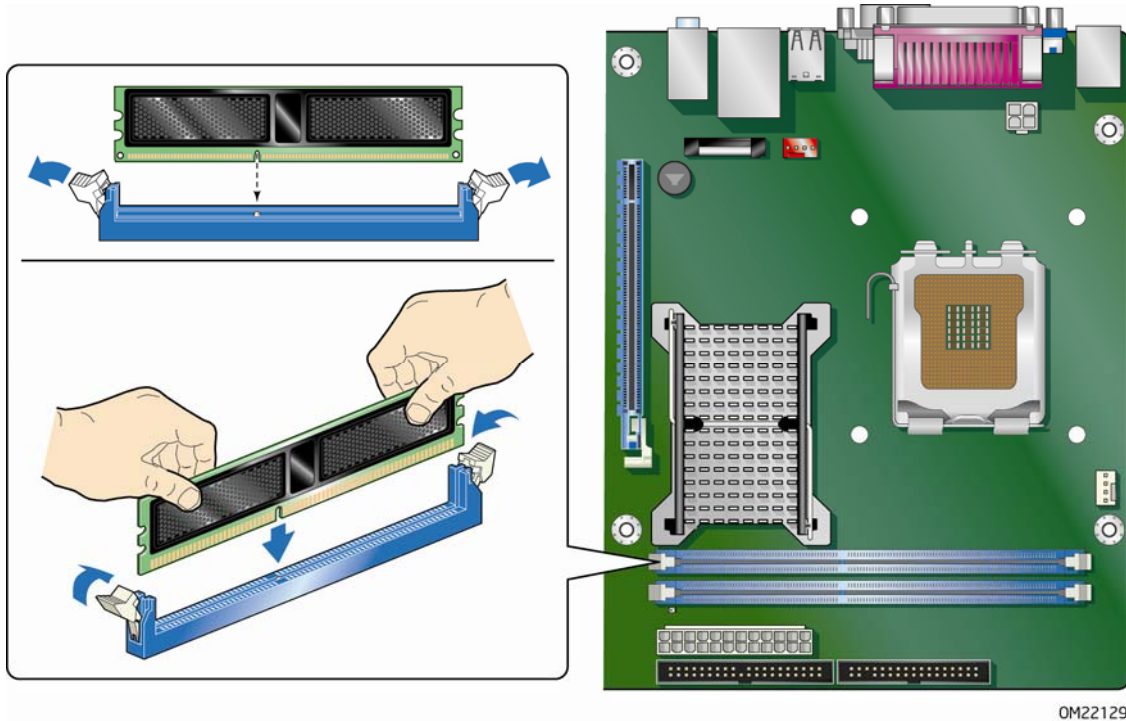

Figure 15. Installing a DIMM
3. Remove the computer's cover and locate the DIMM sockets (see Figure 15).
6. Position the DIMM above the socket. Align the small notch at the bottom edge of the DIMM with the key in the socket (see inset in Figure 15).